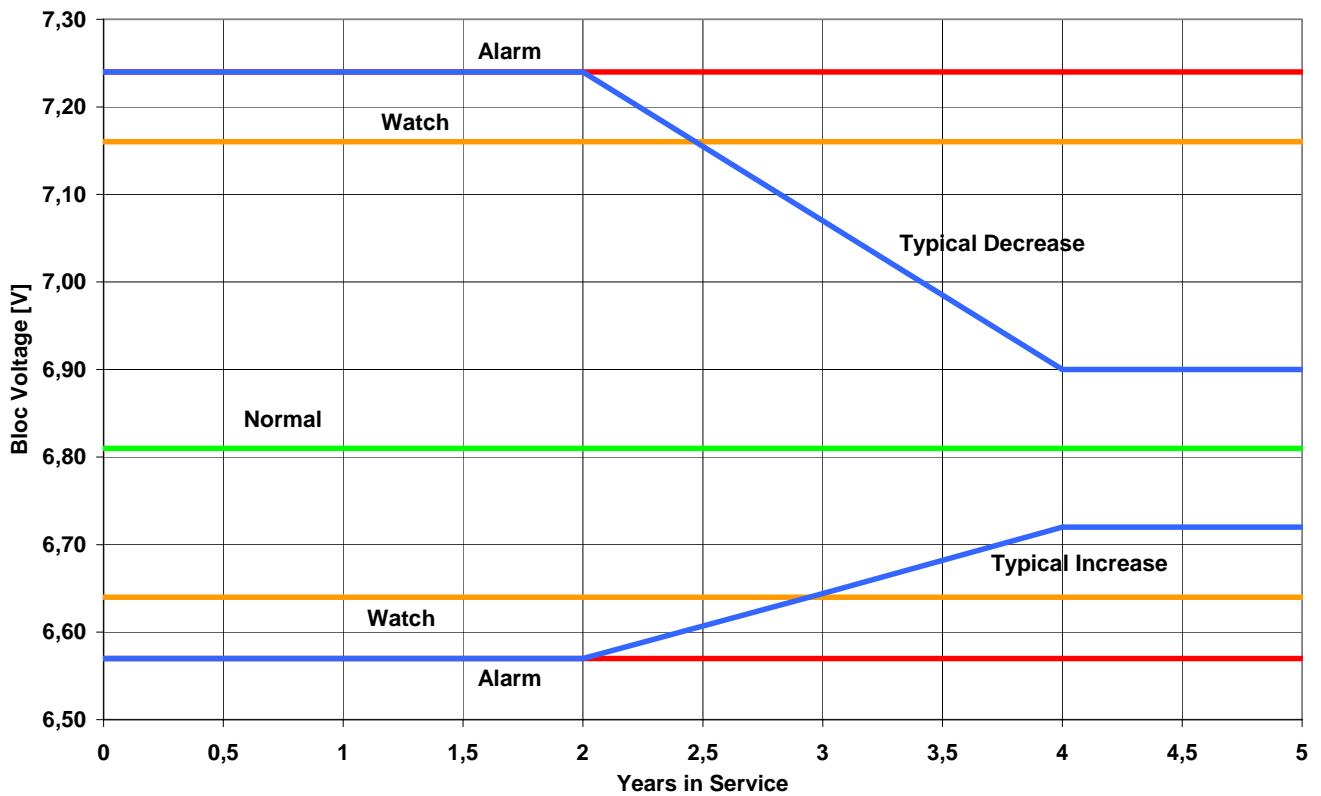

Fig. 6: A400 (6 V) – Float Voltage Deviation vs. Years
- The individual cell or block float voltages may deviate within a string from the average value set as shown in figures 6 to 16. The following table 3 gives an overview about all the battery types and their variations from the average value under float charge conditions acc. to 6.1.
The values correspond to the criterion “Watch” in fig. 6 to 16.
- This deviation is even stronger after the installation and within the first two or three years of operation. It is due to different initial states of recombination and polarization within the cells. In the course of the years it comes to a restriction of the spreading range acc. to fig. 6 to 16 (“Typical increase”, “Typical decrease”, respectively). It is a normal effect and well described in [7].
Equalizing charges are required after deep-discharges and/or inadequate charges or if the individual cell or block voltages are outside the specified range as shown in fig. 6 to 16.